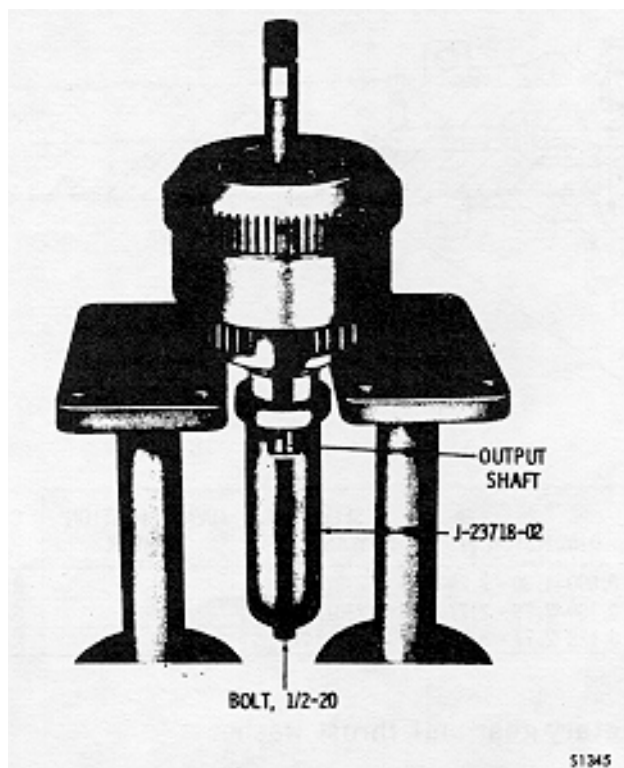

Fig. 6-60. Planetary gear unit assembled for measuring for selective thrust washer
(12) Install positioning tool J-23718-02 over the output shaft and retain with a 1/2-20 bolt (fig. 6-60). Tighten the bolt to 30 lb ft (40 N•m).